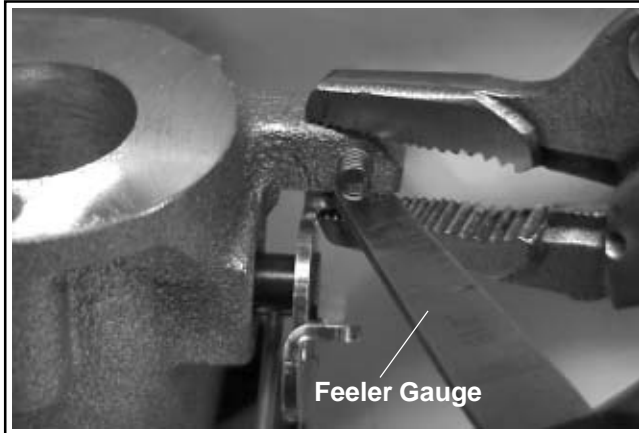

Figure 5B-39. Inserting Feeler Gauge (Engines Without Stop Screw).
- b. On engines with a stop screw, pivot the throttle shaft and plate into the "Full Throttle" position, so the tang of the throttle shaft plate is against the end of the high-speed stop screw. See Figure 5B-38. Temporarily clamp in this position.